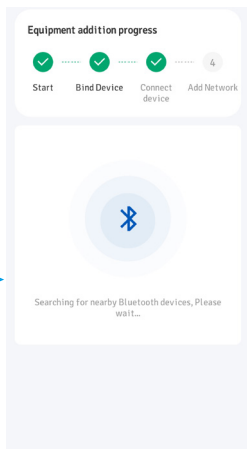

Figure 29
03. The app will switch to the next page and display a message: "Searching for device, please wait", as shown in Figure 29.